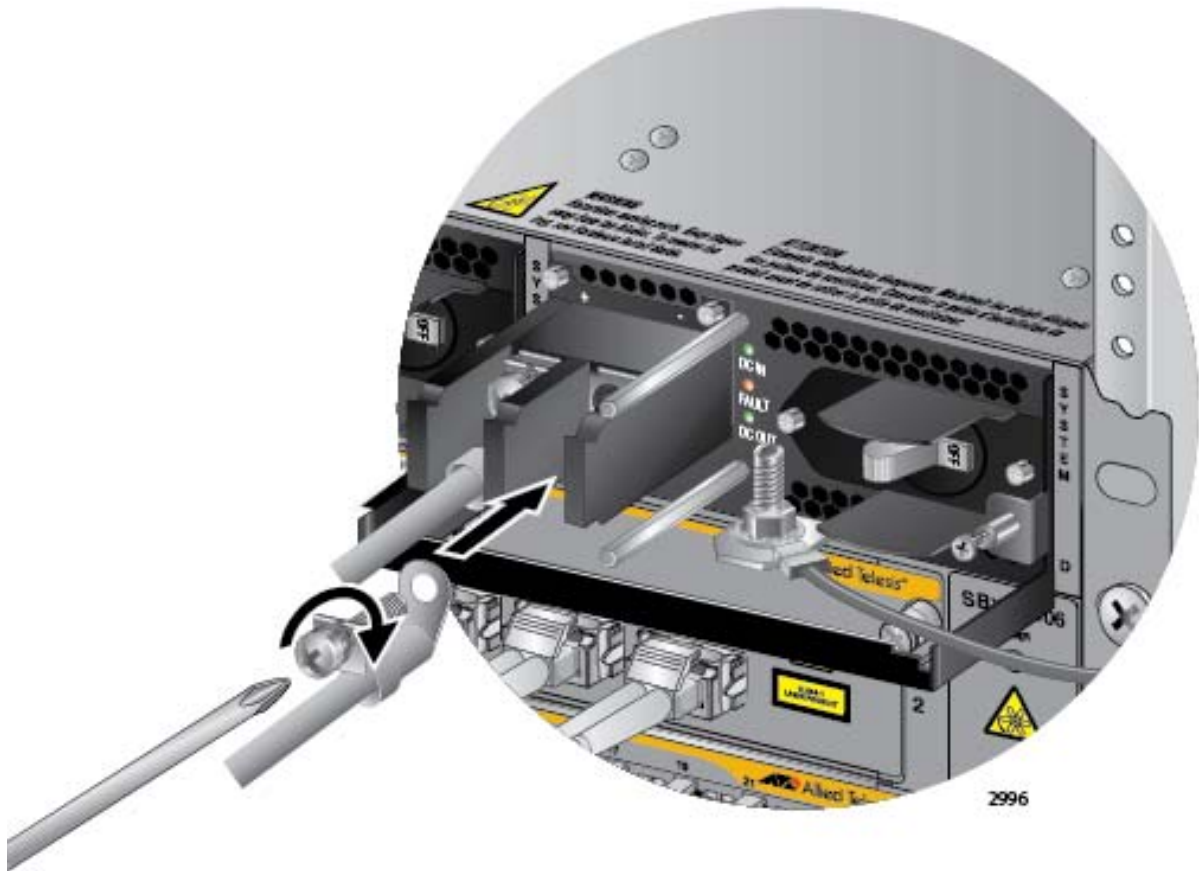

Figure 145. Connecting the Negative (-) Power Wire with a Right Angle Terminal
7. With a #3 Phillips-head screwdriver, connect the negative (-) power lead wire to the negative terminal on the power supply, with the remaining terminal screw removed in step 5. The negative terminal is on the right. Refer to Figure 145 on page 217.